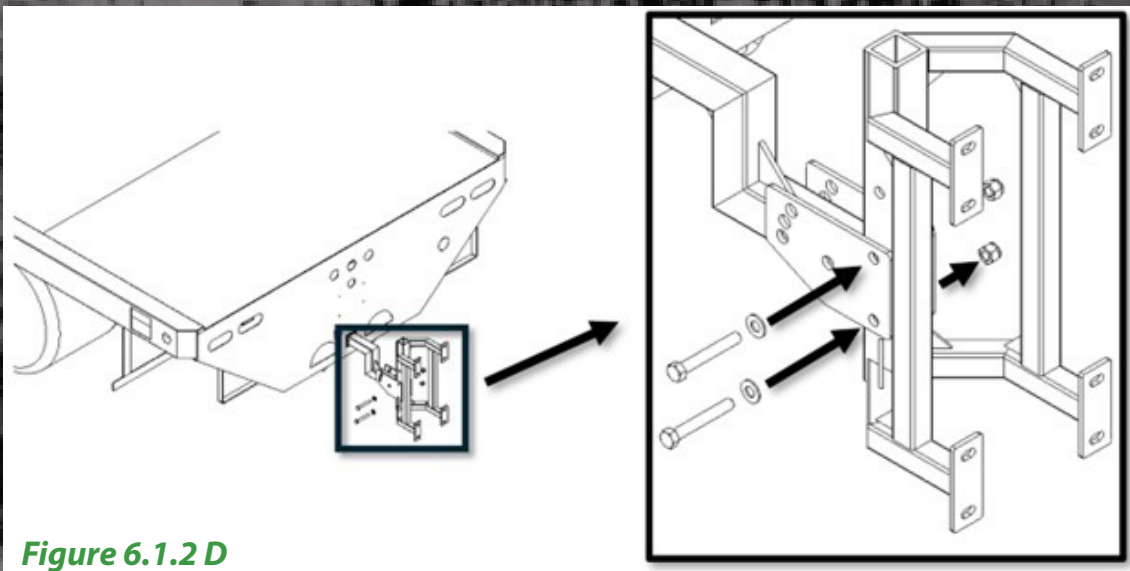

Figure 6.1.2 D
- Attach the *Mast* to the *Pickup Truck Mast Mount* using the flanged bolt holes. See *Figure 6.1.2 E*.